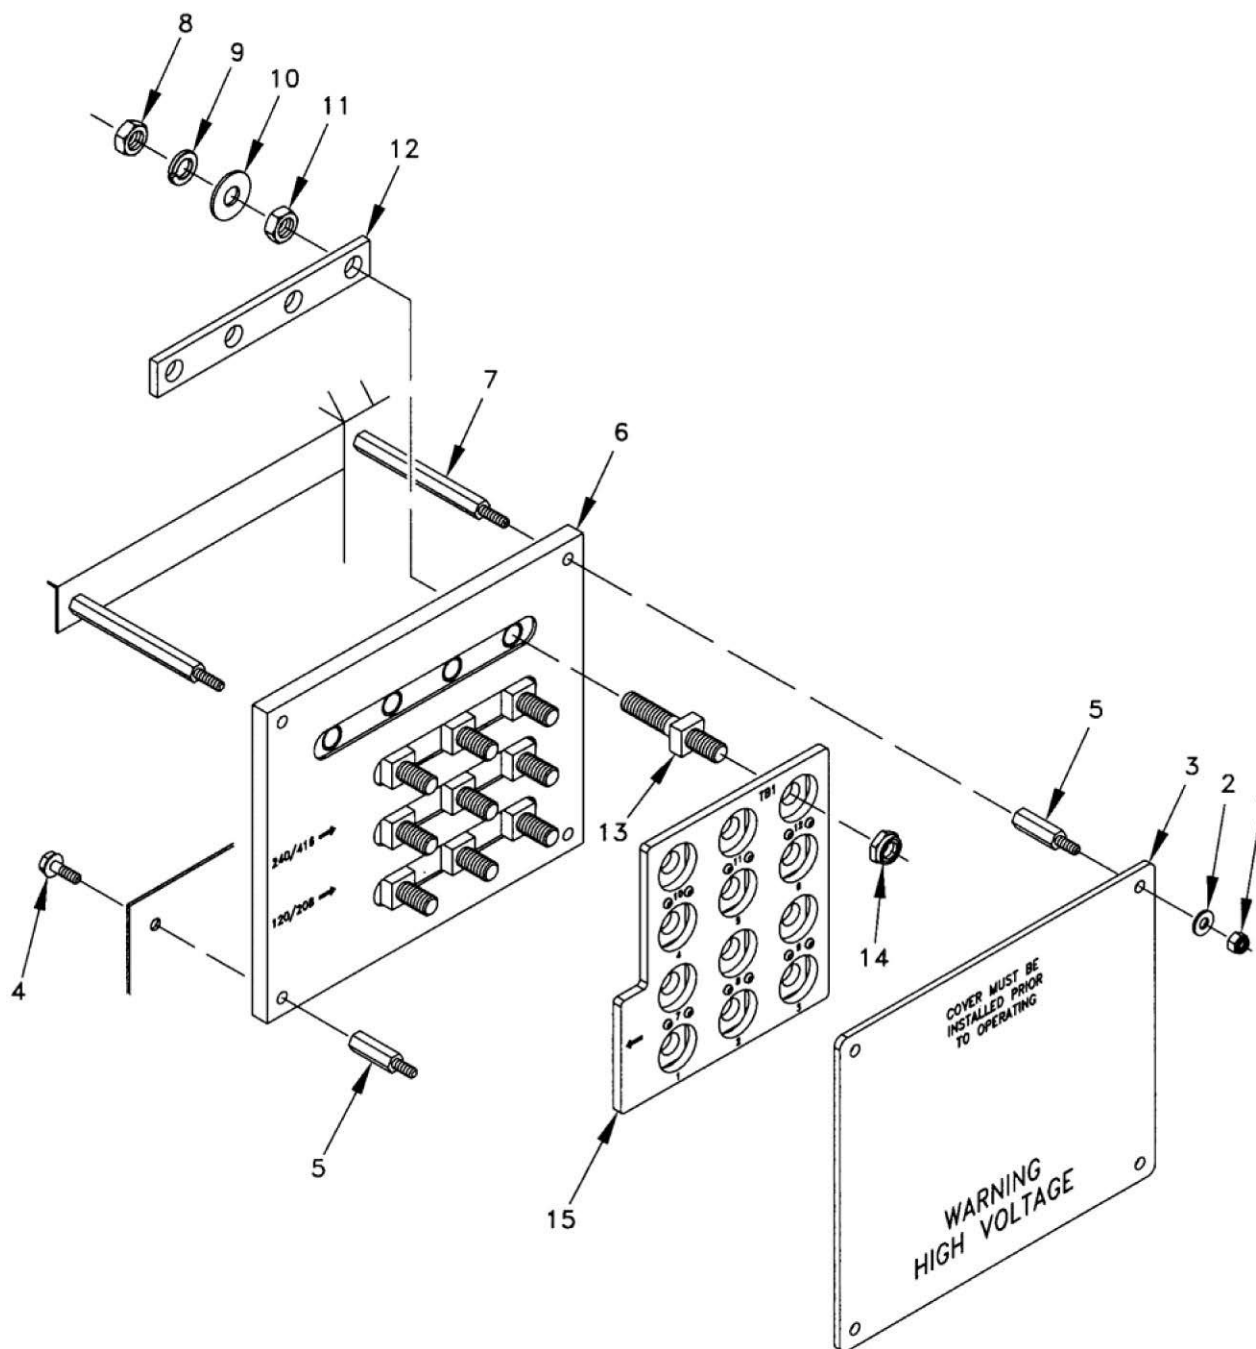

Figure 1. Reconnection Terminal Board Assembly.
3. Remove four locknuts (Figure 1, Item 1), four washers (Figure 1, Item 2), and protective cover (Figure 1, Item 3).
4. Remove two screws (Figure 1, Item 4) and four standoffs (Figure 1, Item 5), and pull reconnection terminal board assembly (Figure 1, Item 6) away from its lower mounting and from two standoffs (Figure 1, Item 7).
5. Remove 13 jam nuts (Figure 1, Item 8), lock washers (Figure 1, Item 9), and washers (Figure 1, Item 10), and tag and disconnect wires from rear of reconnection terminal board assembly (Figure 1, Item 6).
6. Remove 13 jam nuts (Figure 1, Item 11), bus bar (Figure 1, Item 12), 13 studs (Figure 1, Item 13), 13 locknuts (Figure 1, Item 14), and moveable terminal board (Figure 1, Item 15).
1. Install moveable terminal board (Figure 1, Item 15) on terminal board assembly (Figure 1, Item 6), and secure with 13 locknuts (Figure 1, Item 14), 13 studs (Figure 1, Item 13), bus bar (Figure 1, Item 12), and 13 jam nuts (Figure 1, Item 11). Torque jam nuts to 30 ft•lbs (40 N•m), and locknuts to 20 ft•lbs (27 N•m).
2. Remove tags and connect wires to rear of reconnection terminal board assembly (Figure 1, Item 6), and secure with 13 washers (Figure 1, Item 10), lock washers (Figure 1, Item 9), and jam nuts (Figure 1, Item 8). Torque jam nuts to 30 ft•lbs (40 N•m).
3. Position reconnection terminal board assembly (Figure 1, Item 6) on its lower mounting and two standoffs (Figure 1, Item 7), and secure with four standoffs (Figure 1, Item 5) and two screws (Figure 1, Item 4).
4. Install protective cover (Figure 1, Item 3) and secure with four washers (Figure 1, Item 2) and locknuts (Figure 1, Item 1).